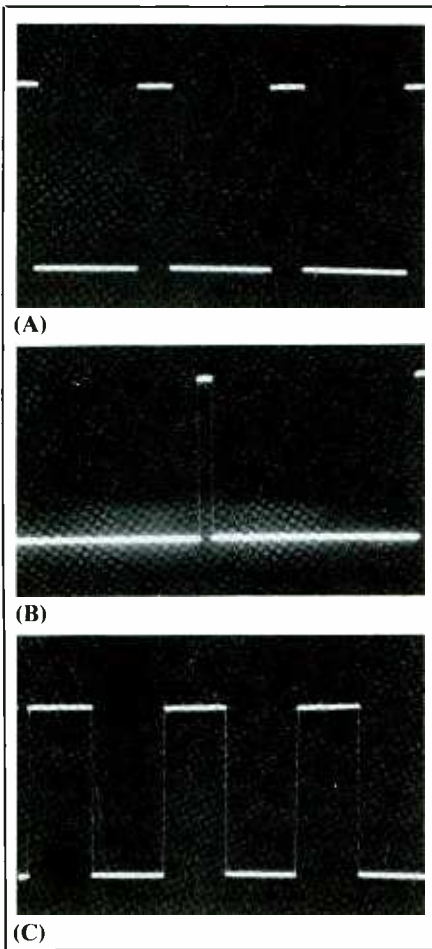

Fig. 6. Three different-width pulses produced by project: (A) is maximum attainable level; (B) and (C) are more clearly "pulse-like" in nature.
Three different pulse widths are shown in Fig. 6. The difference between the waveforms was the setting of potentiometer R9. The waveform shown in Fig. 6(C) is the maximum attainable level with this circuit and is nearly a square wave. The narrower pulses in Fig. 6 (A) and (B) are more clearly “pulse-like” waveforms.